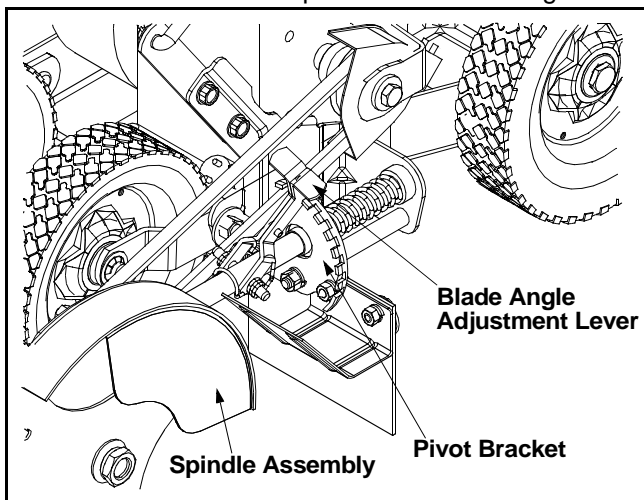

Figure 9
- Release the blade angle adjustment lever into one of the notches on the pivot bracket. See Figure 9.